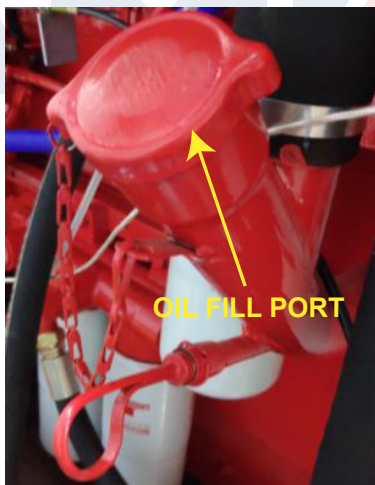

FIGURE 26 - OIL FILL CAP
- Fill diesel engine with appropriate oil (See TABLE 10) using the oil fill port on top of the engine. See FIGURE 26.
- Turn the diesel engine off. Wait a minimum of five (5) minutes and check the diesel engine oil level. Add oil if necessary.